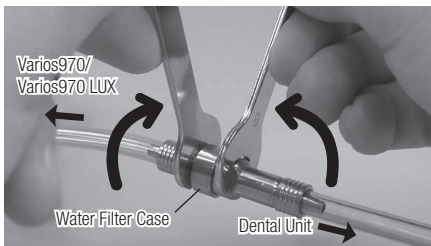

Fig.42
- 2) Mount two Spanner Wrenches (5x8) and turn those as shown in Fig.42.